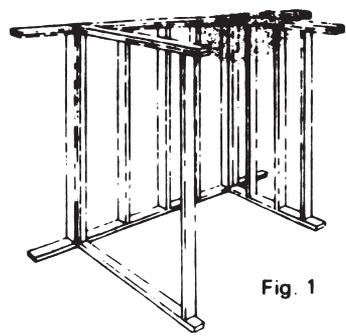

Fig. 1
1. The tub should be on the job site during the early stage of framing. Studs may be temporarily omitted to allow unit to be moved into place (figure1).
(FIGURE 1)
6. Hang the unit by the rim into the wet adhesive sealant, then support the floor as shown in figure1.